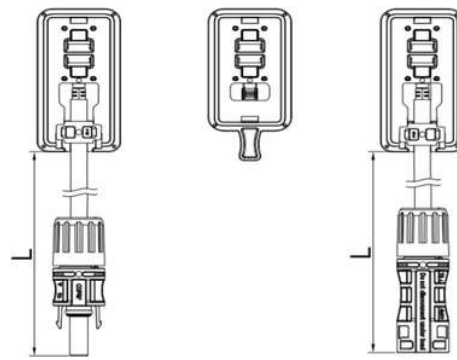

Fig. 6 The half-cut cell module/ split junction box
The installation position under different installation methods for different module types	Clamp installation on long side (+5400Pa, -2400Pa) L in Fig. 6
- h) The length of the junction box shall be determined according to the component specifications and the customer's design proposal. As shown in Figure 6 below, consider the length of the lead wire before designing the wiring.